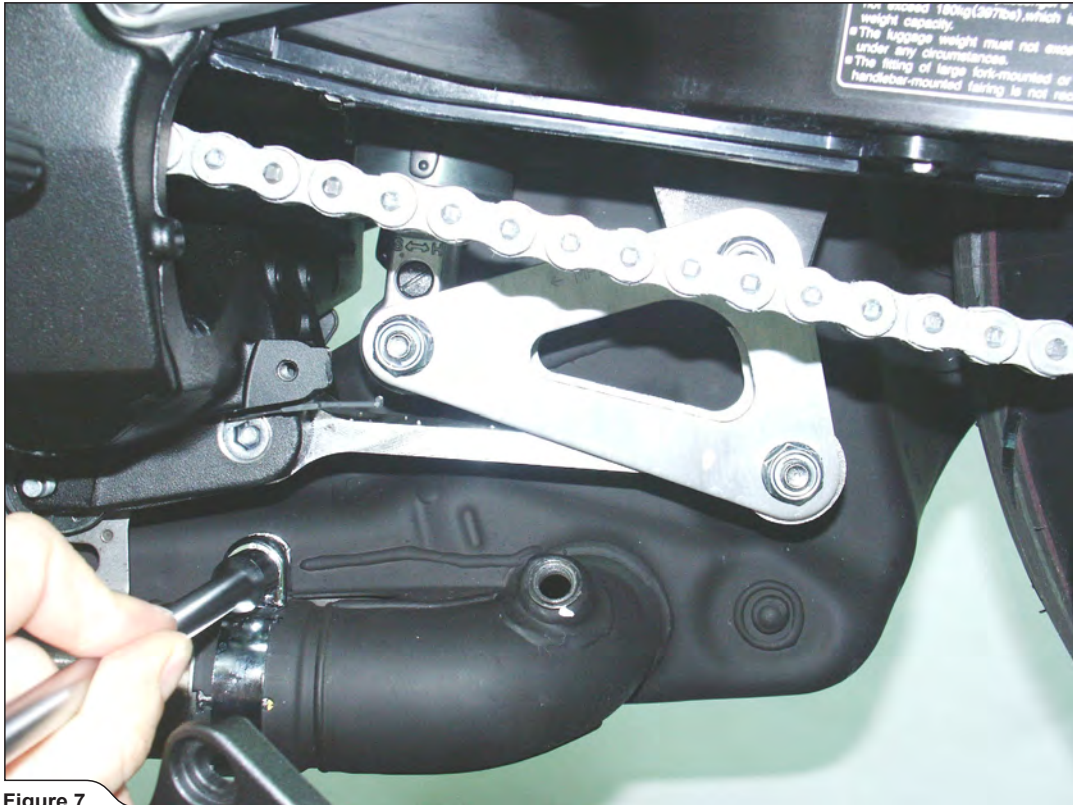

Figure 7
5. Unscrew the bolt of the metal clamp at the muffler - link pipe joint, remove the muffler, the gasket and flange (Figure 7, 8).